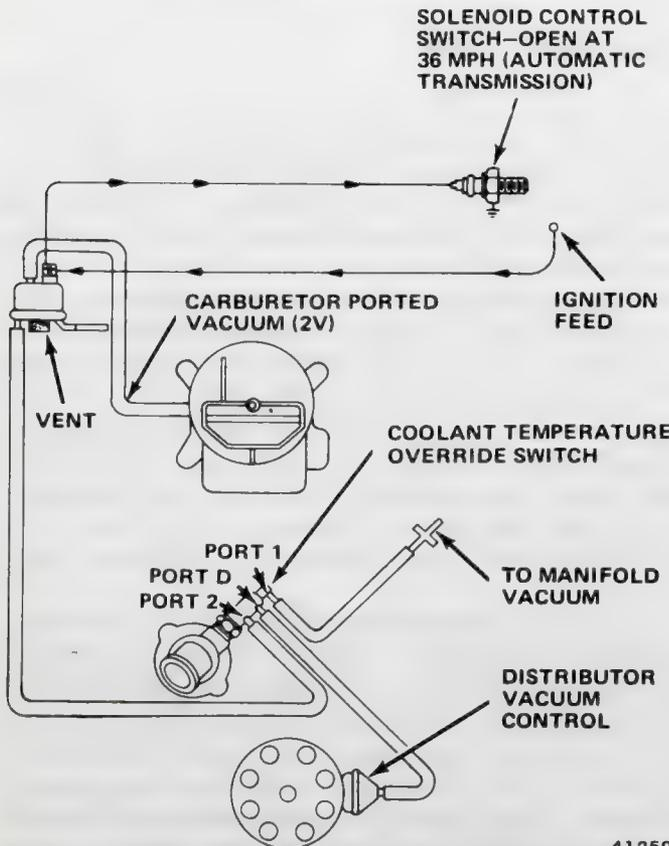

Fig. 1G-18 TCS System—Eight-Cylinder
- (1) Support vehicle so drive wheels are off ground.
- (2) Connect test lamp wire to battery positive post.
- (3) Disconnect wire connector from solenoid vacuum valve and insert probe in orange solenoid switch wire terminal.
- (4) Start engine and put transmission in DRIVE. Observe test lamp. Note speed at which test lamp goes out (switch opens). Slowly decelerate and note speed at which test lamp goes on (switch closes). Test lamp should go out above 37 mph and should go on below 33 mph.
- (5) Adjust switch if operation is outside operating range. Turn 1/16-inch Allen screw in switch terminal clockwise to increase opening speed and counter-clockwise to decrease opening speed (fig. 1G-20).
- (6) If test lamp does not light at all, perform Test 4—Solenoid Control Switch test.